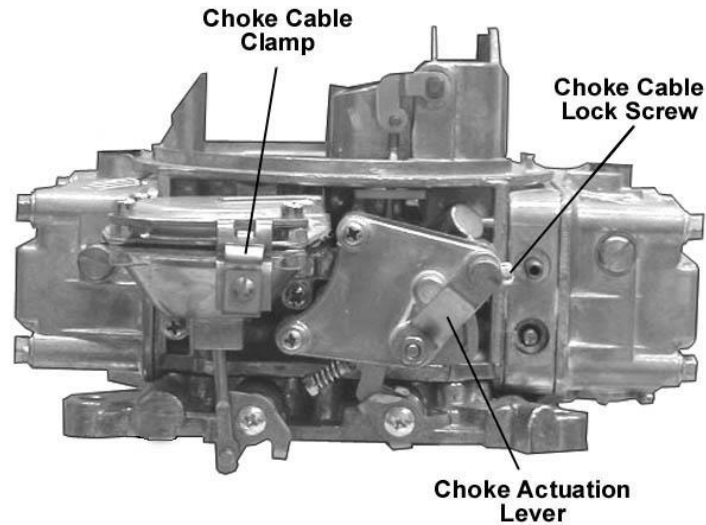

**Figure 1—Carburetor torque sequence (all Holley® carburetors)**
3. Place the carburetor on top of the flange gasket on the manifold. Install the hold down nuts and snug down progressively in a "crisscross" pattern (60-80 in./lbs.), as shown in **Figure 1**.